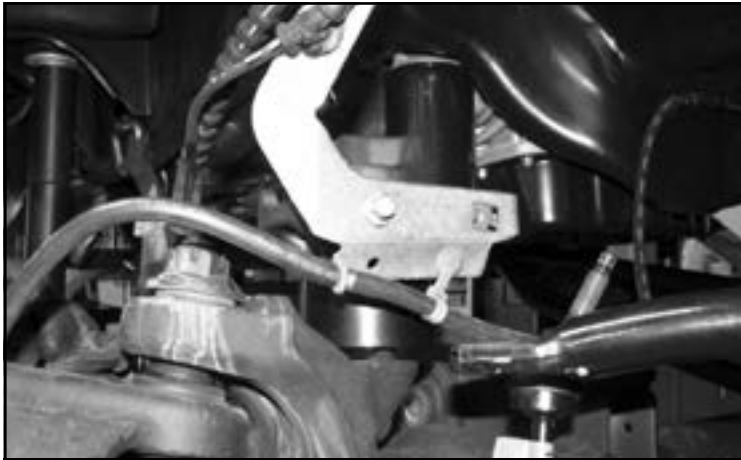

FIGURE 11 - STEP 11
11. Reconnect the factory lower brake line bracket to the lower spring perch using the factory hardware. Torque to 29 ft-lbs. **SEE FIGURE 11**